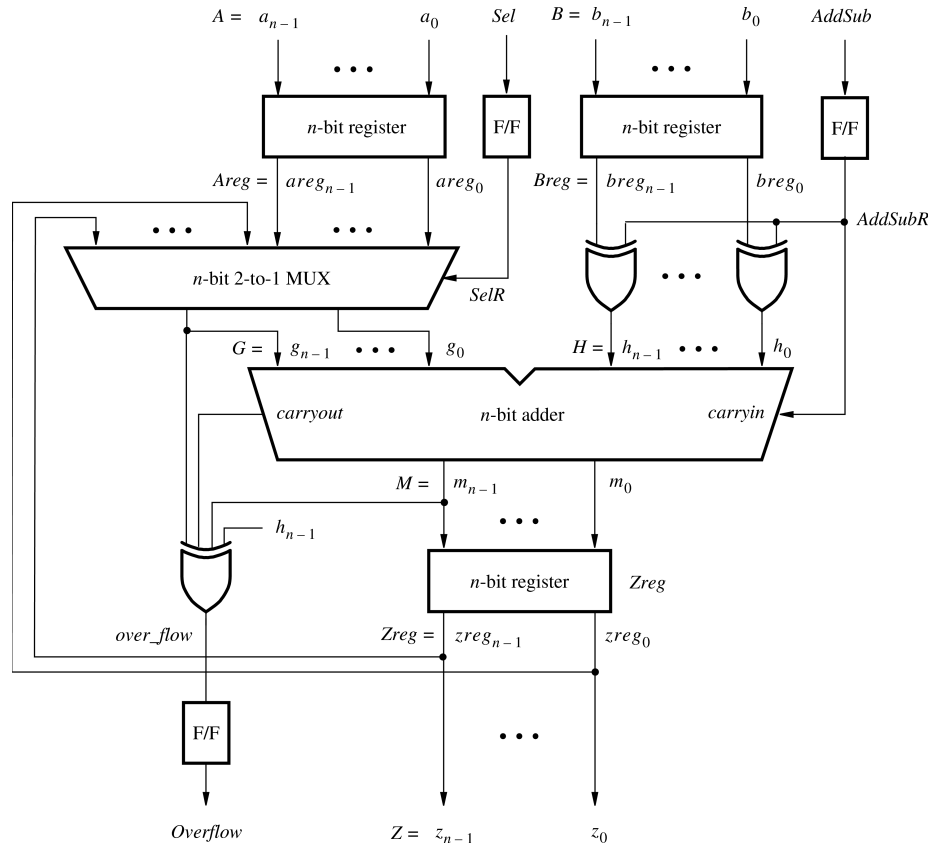
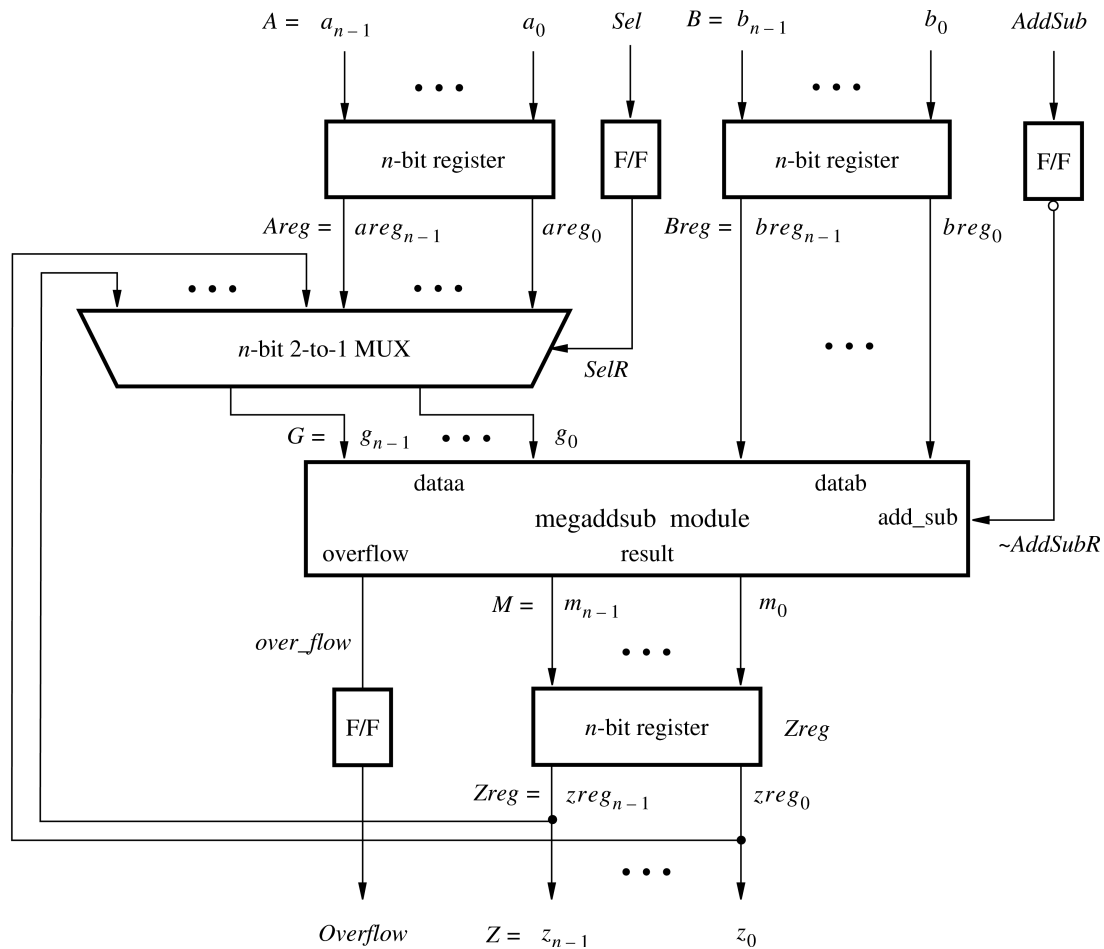
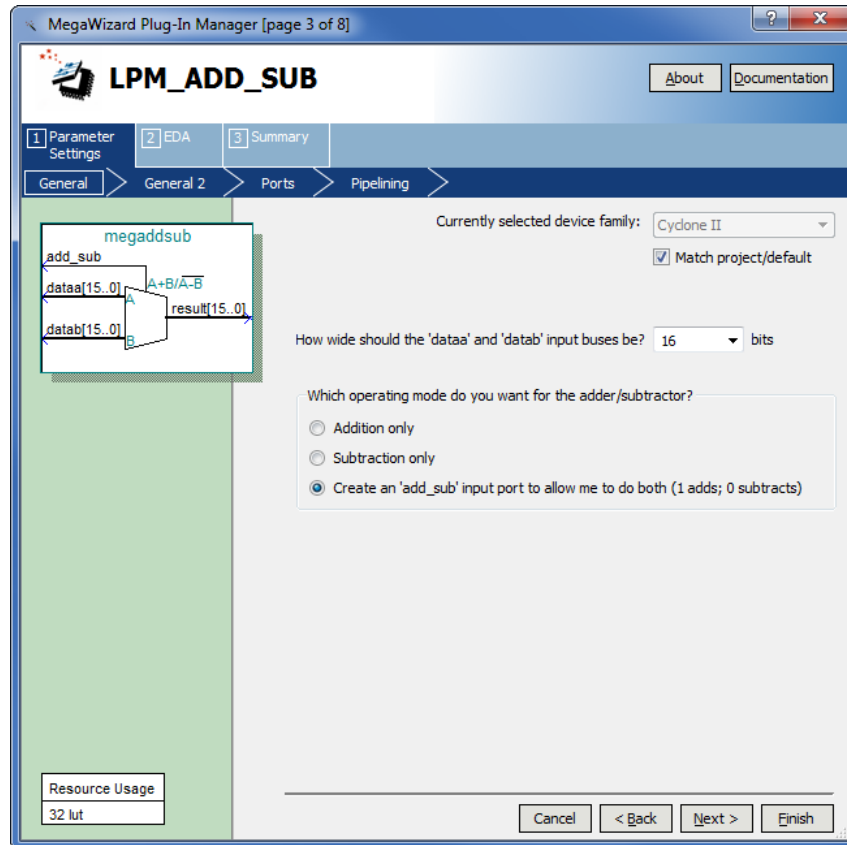

Figure 1. The adder/subtractor circuit.
Figure 3. The augmented adder/subtractor circuit.
Figure 6. Specify the size of data inputs.
As an example, we will use the adder/subtractor circuit shown in Figure 1. It can add, subtract, and accumulate n -bit numbers using the 2's complement number representation. The two primary inputs are numbers $A = a_{n-1}a_{n-2}\cdots a_0$ and $B = b_{n-1}b_{n-2}\cdots b_0$, and the primary output is $Z = z_{n-1}z_{n-2}\cdots z_0$. Another input is the *AddSub* control signal which causes $Z = A + B$ to be performed when *AddSub* = 0 and $Z = A - B$ when *AddSub* = 1. A second control input, *Sel*, is used to select the accumulator mode of operation. If *Sel* = 0, the operation $Z = A \pm B$ is performed, but if *Sel* = 1, then B is added to or subtracted from the current value of Z . If the addition or subtraction operations result in arithmetic overflow, an output signal, *Overflow*, is asserted.
We will use the *lpm_add_sub* module to simplify our adder/subtractor circuit defined in Figures 1 and 2. The augmented circuit is given in Figure 3. The *lpm_add_sub* module, instantiated under the name *megaddsub*, replaces the adder circuit as well as the XOR gates that provide the input *H* to the adder. Since arithmetic overflow is one of
4. In the box in Figure 6 specify that the width of the data inputs is 16 bits. Also, specify the operating mode in which one of the ports allows performing both addition and subtraction of the input operand, under the control of the *add_sub* input. A symbol for the resulting LPM is shown in the top left corner. Note that if *add_sub* = 1 then *result* = *A* + *B*; otherwise, *result* = *A* – *B*. This interpretation of the control input and the operation performed is different from our original design in Figures 1 and 2, which we have to account for in the modified design. Observe that we have included this change in the circuit in Figure 3. Click Next.
- The *adderk* instance of the adder circuit is replaced by *megaddsub*. Note that the *dataa* and *datab* inputs shown in Figure 6 are driven by the *G* and *Breg* vectors, respectively. Also, the inverted version of the *AddSubR* signal is specified to conform with the usage of this control signal in the LPM.